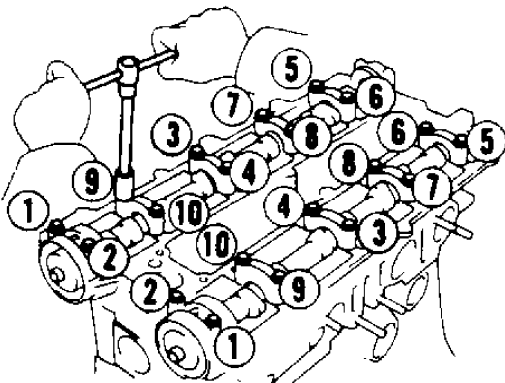

Fig. 14: Camshaft Bearing Cap Bolt Removal Sequence
2) Loosen camshaft bearing cap bolts in sequence. See Fig. 14. Remove camshaft bearing caps, oil seals and camshafts.